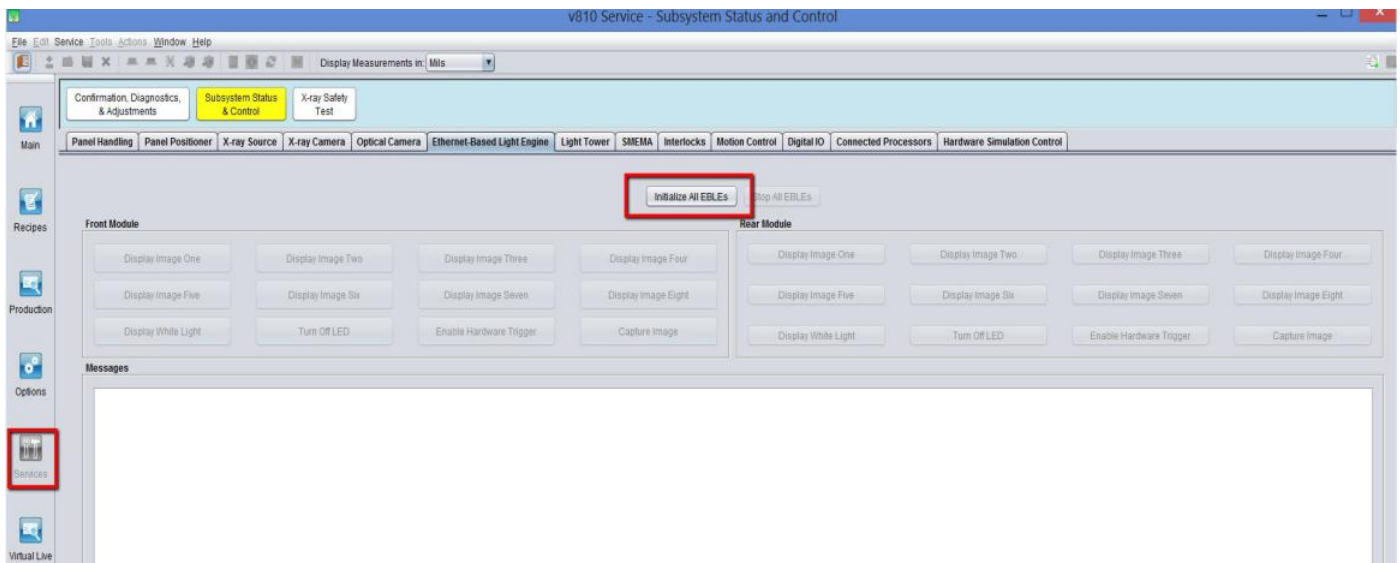

Figure 32 EBLE GUI
30. Open V810 Software & go to Services-> Subsystem Status& Control-> Ethernet-Based Light Engine and press Initialized All EBLEs as below Figure 32.